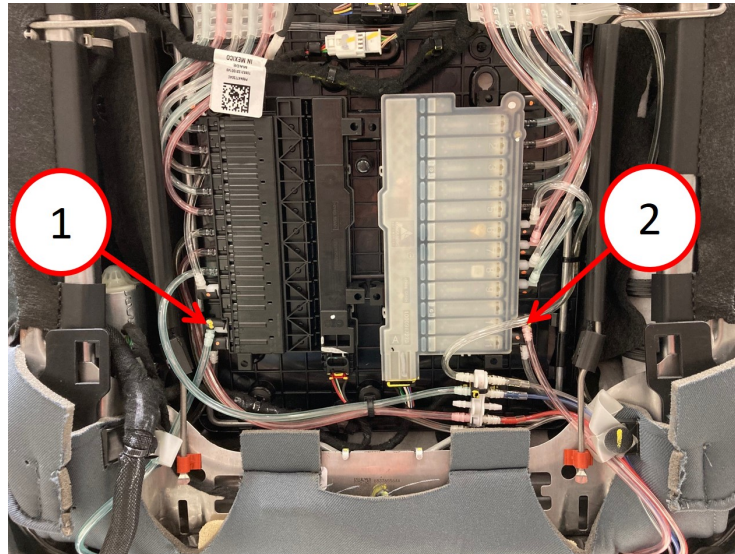
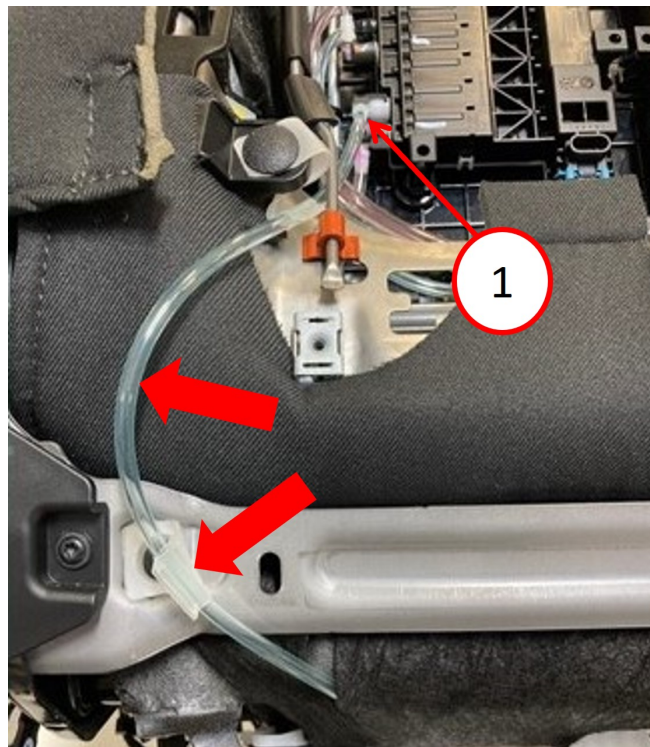

Fig. 7
Fig. 8
11. Check both the inboard and outboard side hoses up to the valves (Fig. 7) for proper hose routing, fastening and connection to the valve (Fig. 8) . If any hose kinks or disconnections are found, reroute and or connect the hose so the issue is not present.